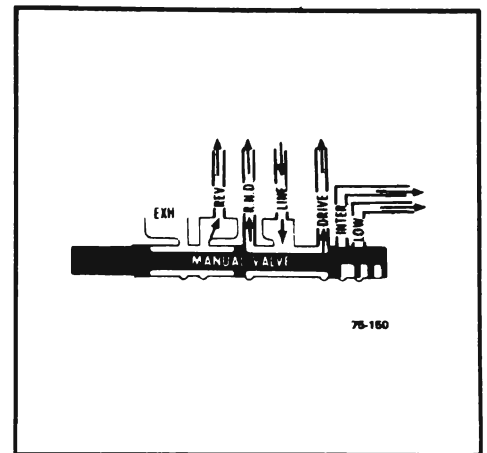

Figure 75-17 - Manual Valve
e. Manual Valve (See Figure 75-17)